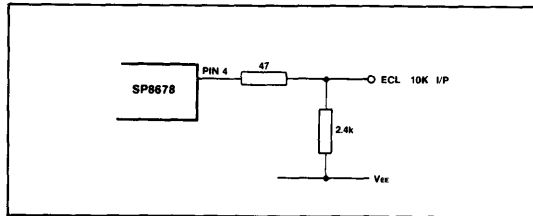

Fig.7 SP8675/8 to ECL 10K interface
5. The emitter follower output includes an internal 3k pulldown resistor and is compatible with ECL II, but can be interfaced with ECL III/10K by the inclusion of two resistors. See Fig. 7.